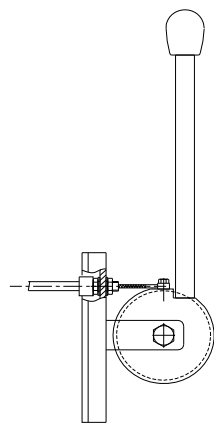

Fig. 39 Original brake release handle
1. The original drawing of a brake release handle is referred to in Fig.39;